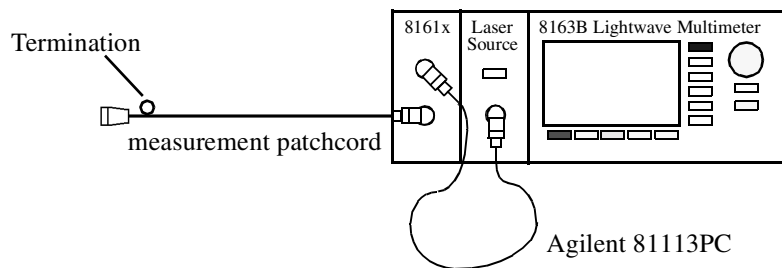

Figure 101 Measuring the Termination Parameter - External Source
- 1 Making sure all the connectors are clean, set up the instrument as shown in Figure 101 if you are using an External Source,